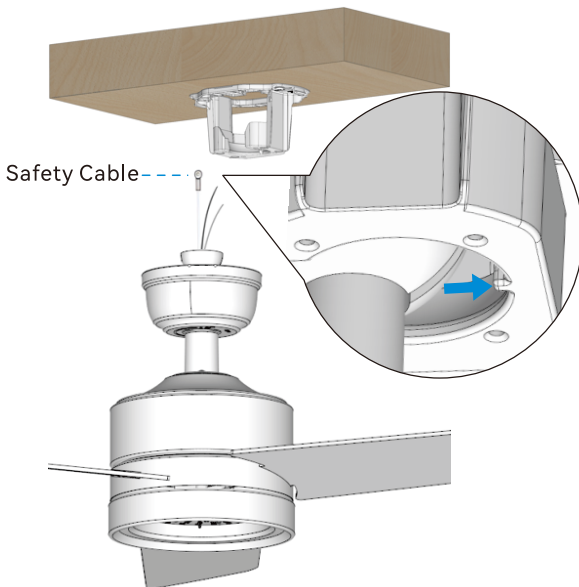

Fig. 6.1
6.1 Install the ball end of the downrod into the opening of the mounting bracket. Rotate the downrod until the tab on the mounting bracket is securely seated in the slot in the downrod ball, as shown in the enlarged image in Fig. 6.1.